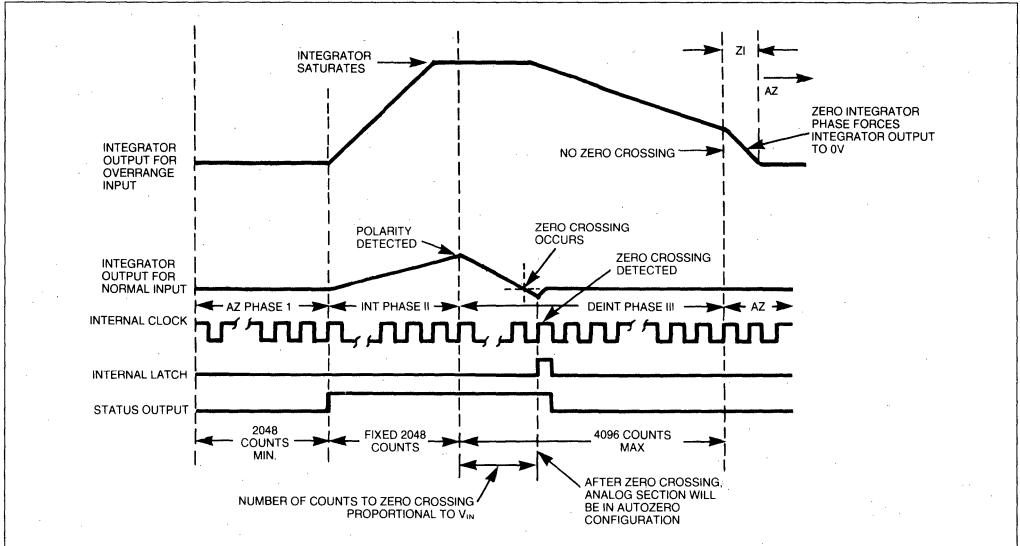

Figure 8: Conversion Timing (RUN/HOLD Pin High)
The Functional Diagram shows a block diagram of the Analog Section of the TSC804. The circuit will perform conversions at a rate determined by the clock frequency (8192 clock periods per cycle), when the RUN/HOLD input is left open or connected to V^+ . Each measurement cycle is divided into four phases as shown in Figure 8. They are: (1) Auto-Zero (AZ), (2) Signal Integrate (INT), (3) Reference Deintegrate (DE), and (4) Zero Integrator (ZI).
During ZI, the reference capacitor is charged to the reference voltage. The signal inputs are disconnected from the buffer and integrator. The comparator output is connected to the buffer input, causing the integrator output to be driven rapidly to 0V (Figure 8). The ZI phase only occurs following an overrange and lasts for a maximum of 1024 clock periods.
During a conversion cycle, the STATUS output goes high at the beginning of Signal Integrate and goes low one-half clock period after new data from the conversion has been stored in the output latches. See Figure 8. The signal may be used as a "data valid" flag to drive interrupts, or for monitoring the status of the converter. (Data will not change while STATUS is low). Status is also output on Data Bit 8, when the TSC804 is in direct mode (Mode = 0, LBEN = 1, HBEN = 0).
With $\text{RUN}/\overline{\text{HOLD}}$ high or open, the circuit operates normally as a dual slope A/D as shown in Figure 8. Conversion cycles operate continuously with the output latches updated after zero crossing in the de-integrate mode. An internal pull-up resistor is provided to insure a high level with an open input.